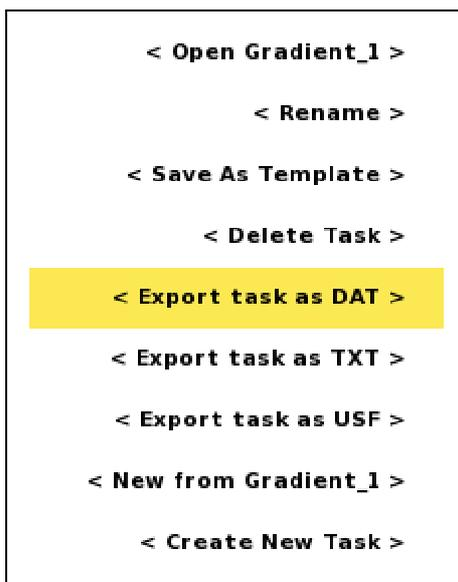

Figure 87 Task options menu
- Highlight <Export *Task* as DAT> (Figure 87)